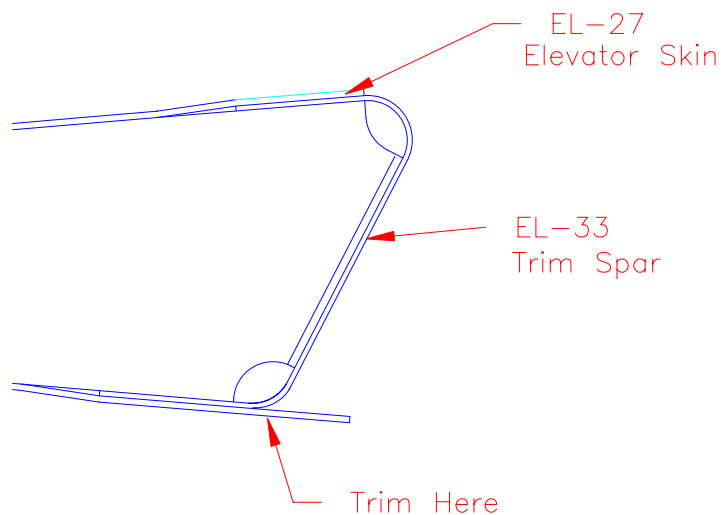

Figure 6.2.2
- 2) The bottom of the trim skin can be trimmed to final size by putting the angled trim spar (EL-33) in place, drilling through from the top skin and clecoing in place. The skin can then be trimmed along the bottom of the trim spar. Figure 6.2.2.